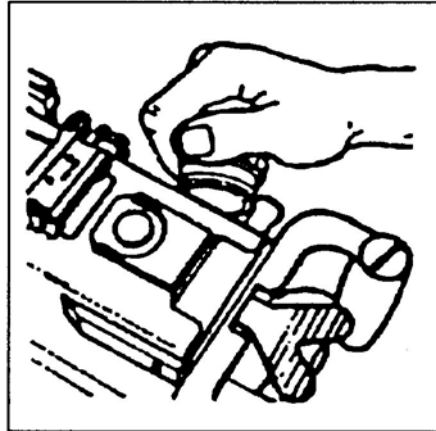

Figure 2. Removal of backplate pin.
- (1) Place the safe/fire switch on fire (F).
- (2) Open the top cover.
- (3) Using the rim of a spent cartridge, pull the backplate pin straight out (Figure 2).